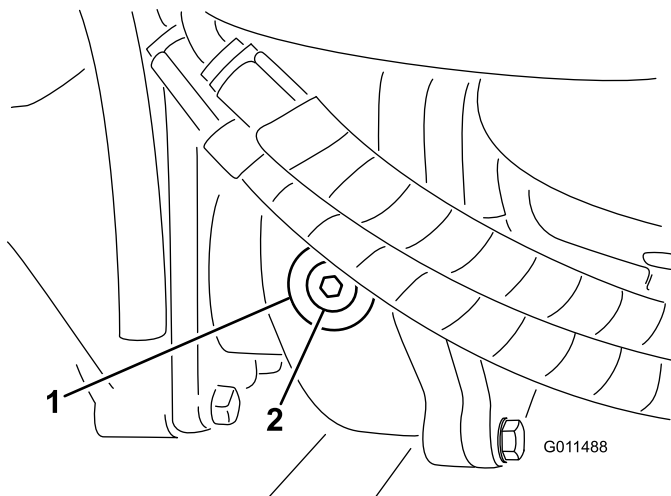

Figure 14
2. Remove the check/fill plug from the left side of the gearbox (Figure 14) and make sure that the lubricant is up to the bottom of the hole. If the level is low, add enough lubricant to bring the level up to the bottom of the hole.